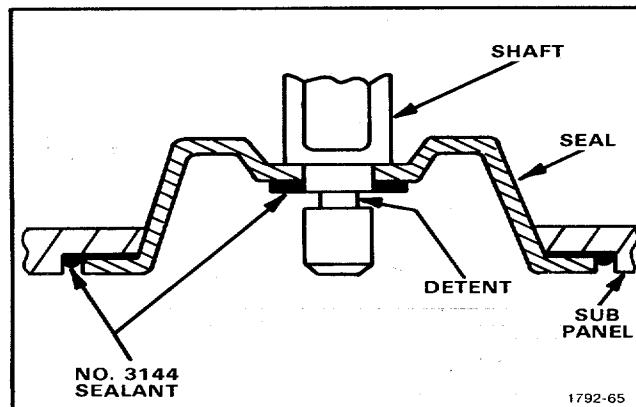

Figure 5-11. Detail of Pushbuttons and their shafts.
11. Install pushbuttons and their shaft assemblies (see Fig. 5-11)
2. Insert the shafts into the pushbutton seals. See Fig. 5-11.